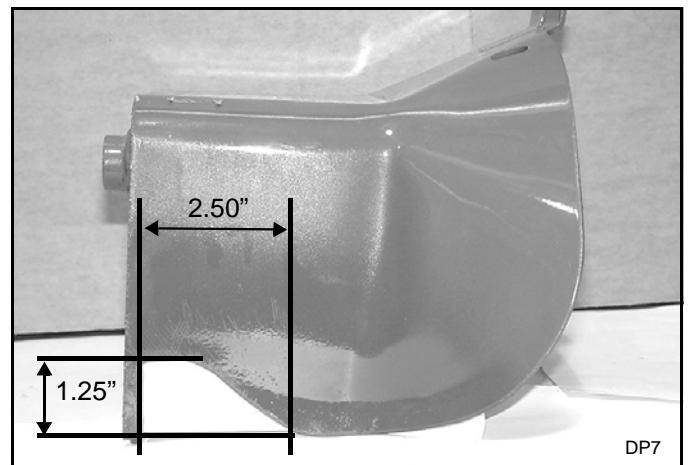

Figure 2 Modified PTO Shield.
2. Cut out right and left corner of PTO shield as shown in Figure 2.